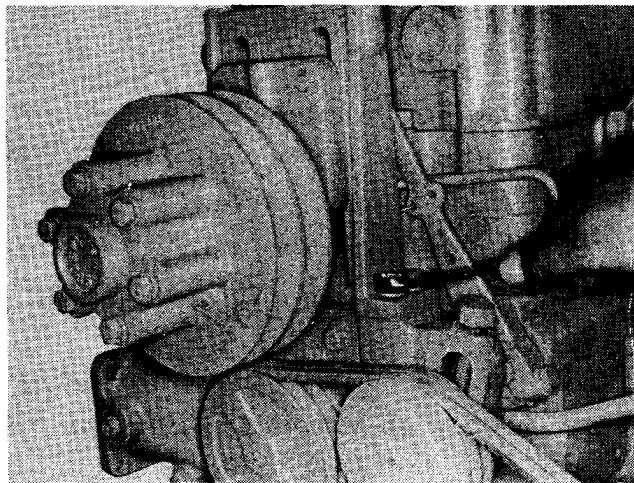

Fig. 0-12, (N100120). Removing fan hub assembly
6. Remove capscrews and lockwashers securing fan hub adjusting bracket to water pump housing. Fig. 0-12. Remove fan hub and adjusting bracket assembly.